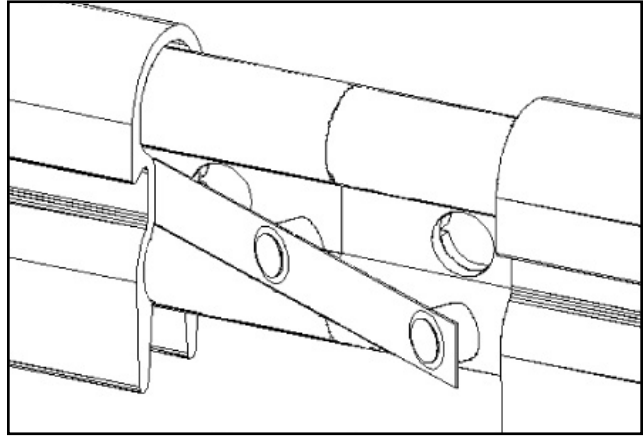

Figure 24-1
A. Slide the long end of the joint keeper under the conductor bar cover on the smooth side of the bar. See **Figure 24-1**.